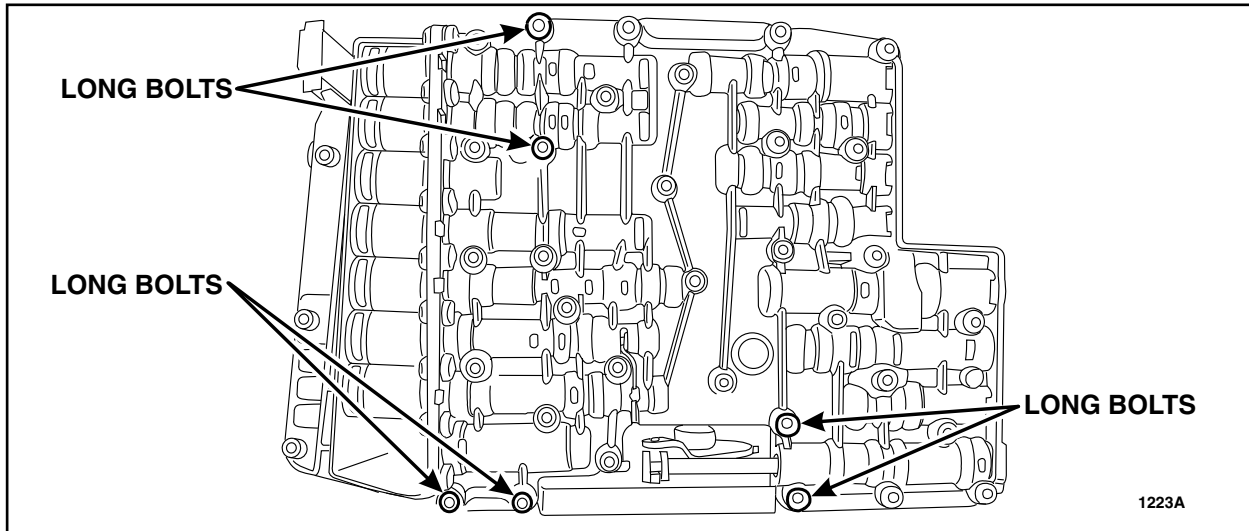

FIGURE 1
4. Remove the six long bolts from the molded leadframe. See Figure 1.